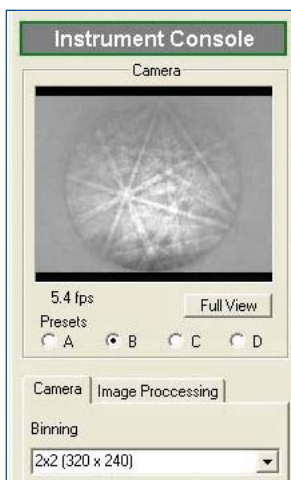

Figure 2 – Instrument console in OIM™ DC with presets for the different camera settings.
Figure 2 - Phase map of a geological sample showing the composition of 6 of the phases present. The phases are named based on the dominant elements present and each phase represents a different mineral (e.g. feldspar, mica, pyroxene, apatite, etc.).
pixel begins in the very first 'pass' or frame of the analysis (Figure 1b). The quality of the phase definition improves with subsequent frames as seen in Figures 1b-1f. Spectra of each phase are saved at the end of the analysis (Figure 2) and the phases are easily quantified.
Figure 2 – The first spectrum acquired with no filter shows high background near Pb(L) and Br(K). The spectrum on the right, acquired with a Rh filter shows clear Pb(L) and Br(K) peaks, with significantly better peak to background ratios.